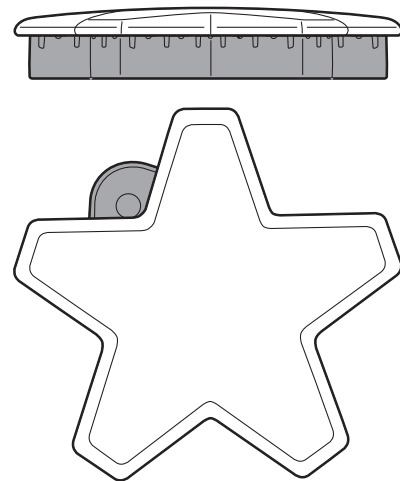
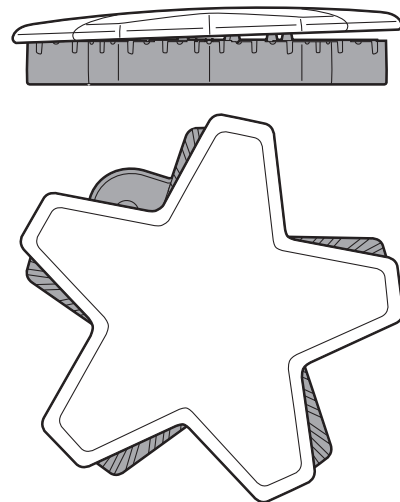

Figure 11: Correct Burner Cap Placement
Figure 12: Incorrect Burner Cap Placement
Each STAR® burner has its own electronic igniter that sparks when the burner is turned on. Each burner should light in 4 seconds or less. If a burner does not light, check to see that the burner cap is positioned correctly on the base (see *Figure 11*).
- Check each burner to make sure there is no gap between the burner cap and burner base. See *Figure 11* and *Figure 12* for examples of correct and incorrect placements of the burner cap.
- You may gently try to move the burner caps from side to side to check if the caps are properly placed on the burner bases. When properly placed, each burner cap will rest flat on top of its burner base, and completely cover the star-shape of the burner base when viewed from the top as shown in *Figure 11*.